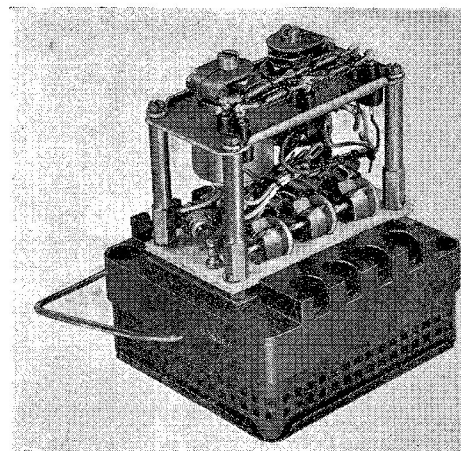

Fig. 2. Layout of components (top cover removed)
2. A moulded base supports an insulated plate on which are mounted the two transistors, four zener diodes and a capacitor (*fig. 2*). Above these, supported on four pillars, is a metal plate carrying the two pre-set potentiometers and four small resistors. The complete assembly is protected by a ventilated moulded cover which is held in place by a wire clip.